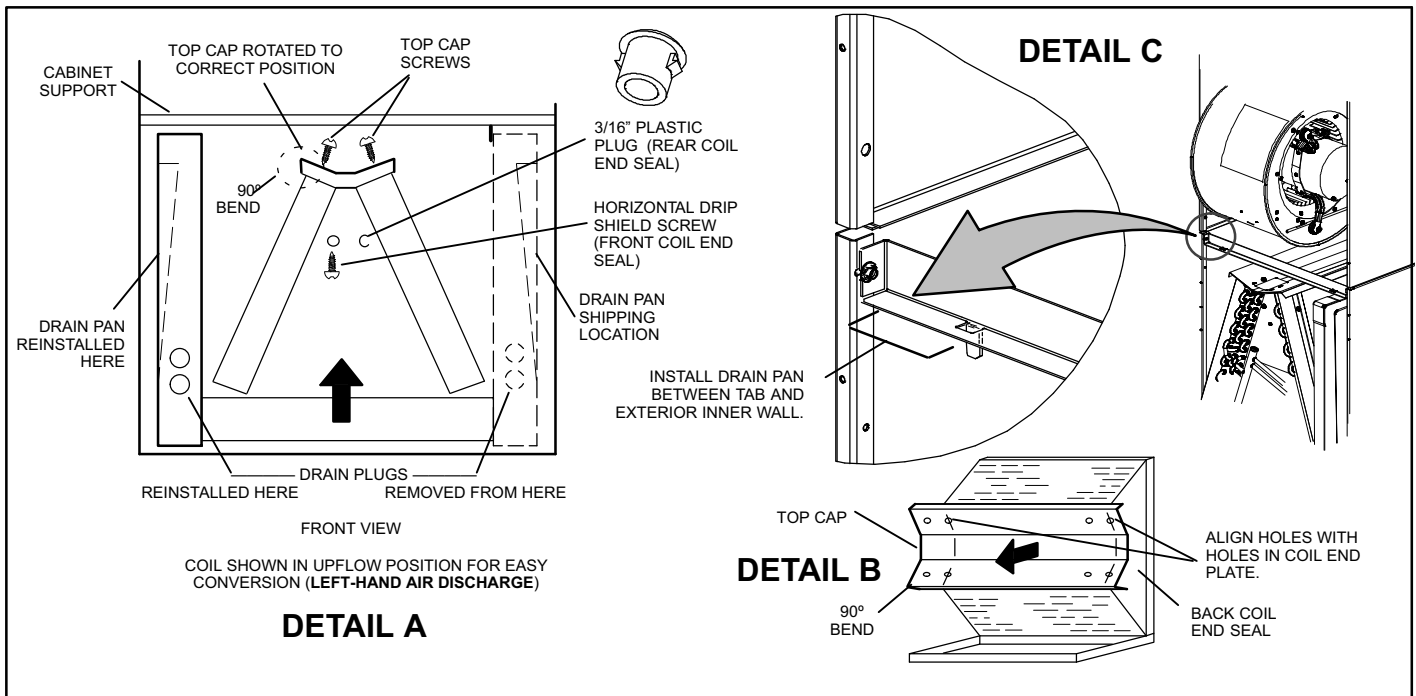

Figure 4. Field Modification for Left-Hand Discharge
4. Remove screws from top cap as illustrated in Figure 4, Detail A.
5. Remove horizontal drip shield screw located in the left center of the back coil end seal as illustrated in Figure 4, Detail A.
9. Rotate top cap 180° front-to-back and align with unused screw holes. Holes must align with front and back coil end plates. The top cap has a 45° bend on one side and a 90° bend on the other. The 90° bend must be on the same side as the horizontal drain pan as illustrated in Figure 4, Detail B.
10. From the upflow position, flip cabinet 90° to the left and set into place. Replace coil assembly. Replace coil assembly. Install drain pan between exterior inner wall and tab as illustrated in Figure 4, Detail C.